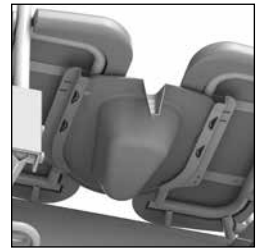

Figure 10 Bedpan.
- The bedpan or bucket is slid in from the back of the chair (See figure 10).